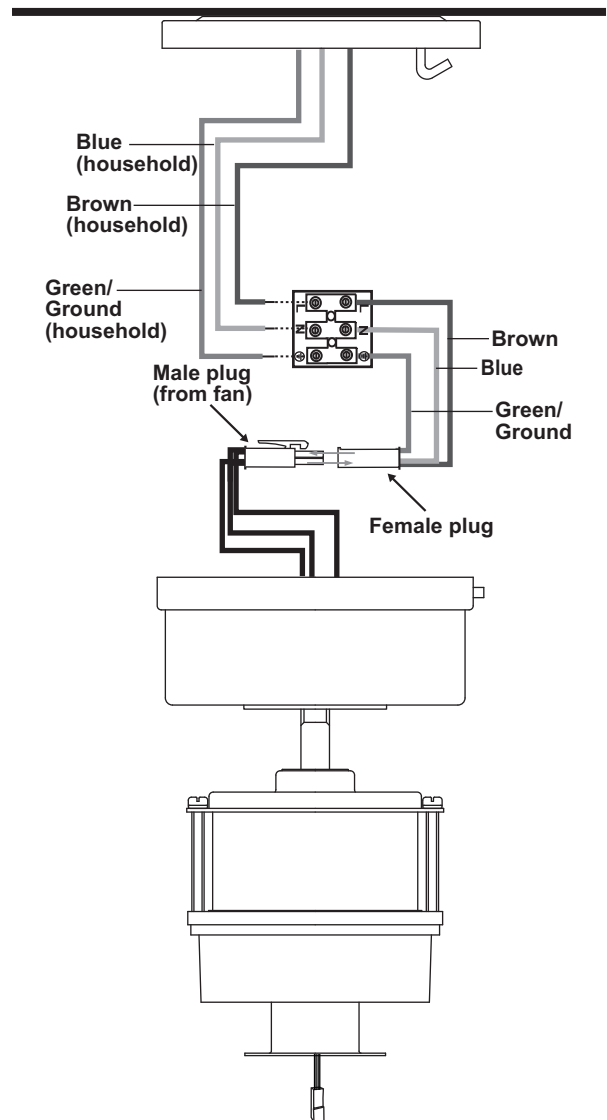

Figure 3
1. Connect the blue, neutral household neutral wire to the terminal block “N” hole. Connect the brown, hot household neutral wire to the terminal block “L” hole. (Fig. 3)
2. Connect the green/ground wire from the household to the terminal block “⊖” hole. (Fig. 3)
3. Be sure to snap together the male and female plugs. (Fig. 3)